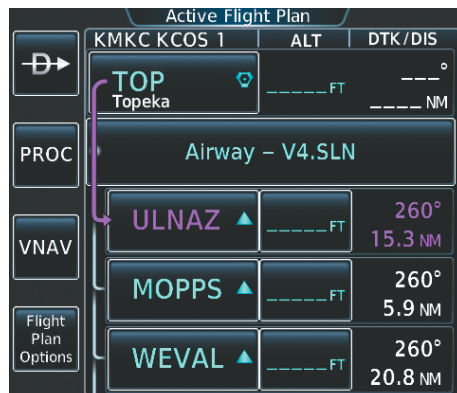

Figure 5-160 V4 Leg is Active
- c) Touch the **OK** Button to activate the leg (Figure 5-160).